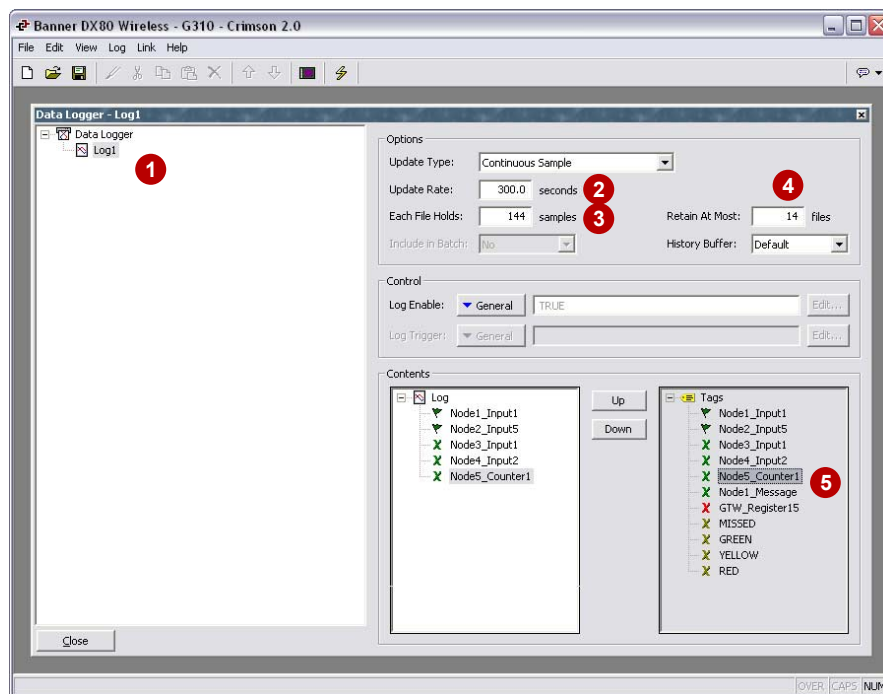

Figure 32
1. Click on the Create Data Log button and select the newly created Log1 (Figure 32)